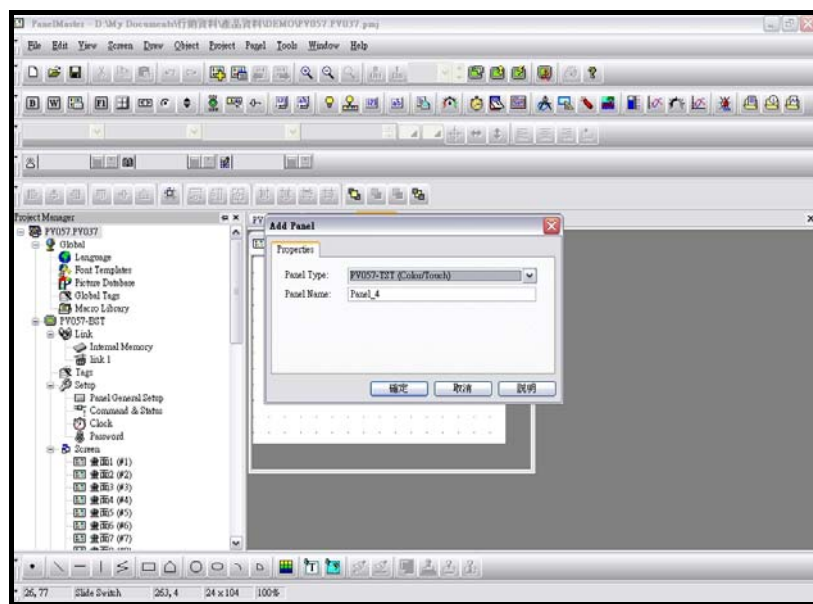

Figure 2-93 New project\_step2\_set the panel model no.and name
**Step 2 : Add panels** , see figure 2-93 shown as below.